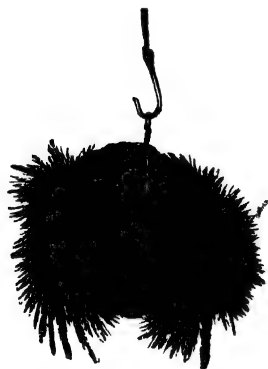

FIG. 101. LODESTONE ATTRACTS IRON FILINGS, AND, IF FREE TO TURN, SETTLES IN A DEFINITE DIRECTION.
special properties ; (1) if suspended so that it can turn freely, it always settles in a definite direction and (2) it attracts iron filings and small pieces of iron and steel (Fig. 101). As early as 2000 B.C. the Chinese seem to have been aware of the curious properties of this substance, and in quite early times, it was used for steering ships, so that it came to be given the name of lodestone or "leading-stone".